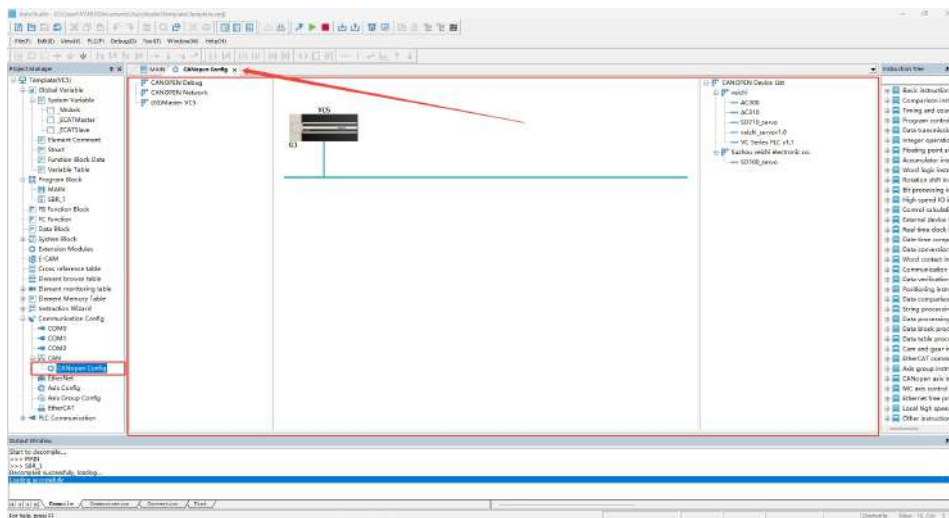

Figure 3-12 CANopen Configuration
Step 4: Double-click the newly added CANopen configuration to open the CANopen setup interface, as shown in Figure 3-12.